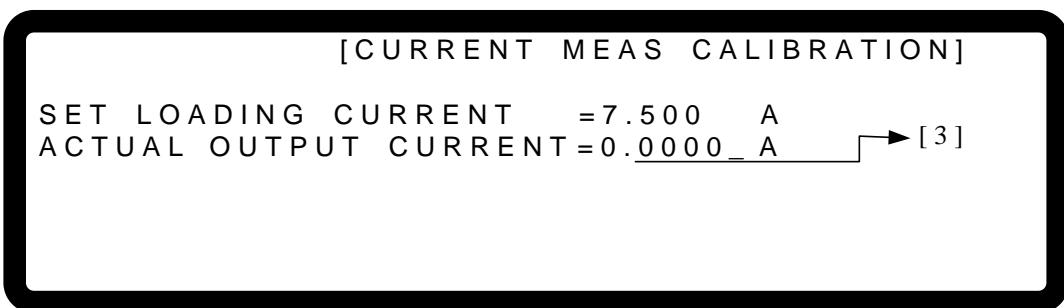

Figure 3-114
10. For the high current range calibration, press “” to perform the 7.5A calibration. The cursor will stop at position [3] as shown in Figure 3-114 for setting the loading current of the Electronic LOAD to 7.500A. Enter the current read by the Current Shunt (DVM) and press “” to confirm and wait for it to end.